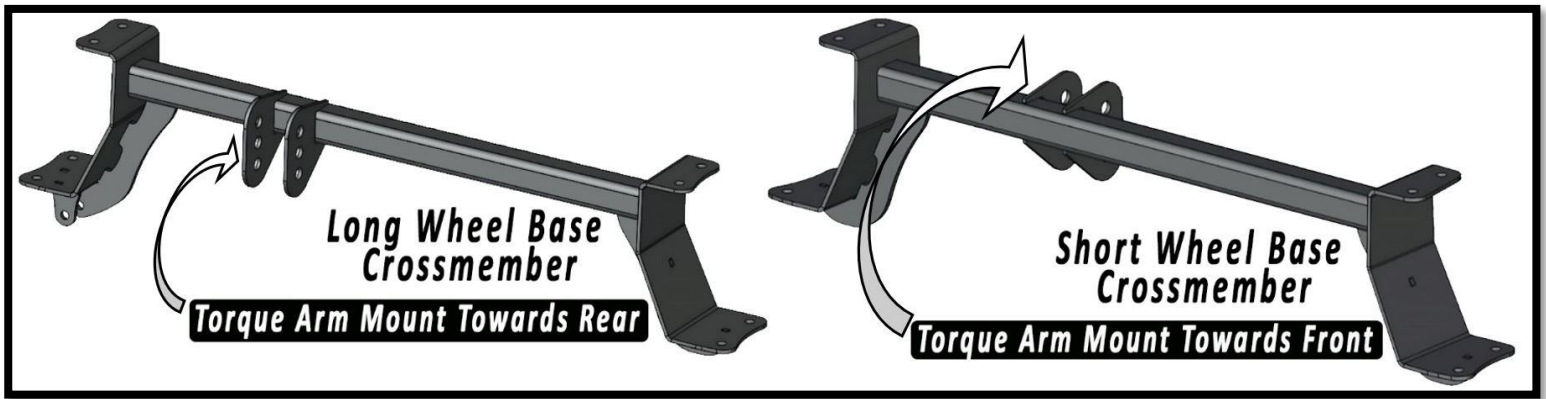

Figure 24
38. Install one SG10-84 spacer (#1) into each end of both rod ends. (Figure 24)